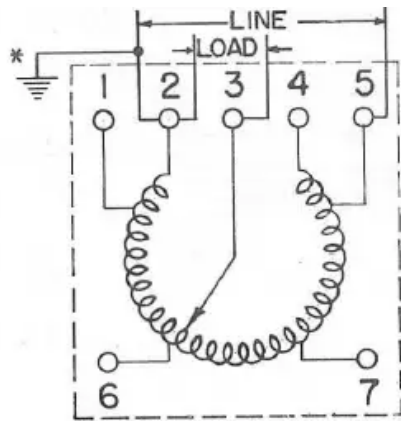

FIGURE 4
In the Vandercook schematic the power supply is simply assumed to be 120v AC on the L1 and L2 input lines from the line voltage. This is also seen in the notation above the NEON indicator in the schematic (e.g. Figure 4) where it says "115v 1 \emptyset - 60~ - 5A". This means that the line voltage is specified as 115v min, single phase (1 \emptyset), at 60Hz AC (that's the 60~), and consuming 5A total.
component causes it to heat up as current flows. The amount of current that can flow through the resistor over time (the power) is related to how much heat the resistor can dissipate. Because the resistors in the Vandercook schematic are carrying a fairly high current, at fairly high voltages, they are specific as 50w resistors and are therefore in the category of “power resistors” because they can dissipate a significant amount (50w) of power. In the schematic (Figure 4) you can see two fixed 50w-rated power resistors of 200Ω and 2Ω, and a 50w rated variable resistor (called a rheostat) of 80Ω by the BRAKE ADJ. circuit.
Finally, we get to the actual Vandercook Universal I powered carriage control circuit (as seen in Figures 4 and 24). This schematic is an old-school control schematic sometimes known as a “ladder diagram”. Because the controls are based on contactors and relays, the schematic shows the switches controlled by those relays on horizontal lines (that form a ladder). That’s why those horizontal lines are numbered on the left of the schematic – so that you can refer to contactor and relay switches by which line they’re on. As described in Section 3.5 these switches are used to implement the logic of the control using serial (AND) and parallel (OR) connections of the switches controlled by the contactor/relay control coils shown on the right side of the schematic and labeled FR (front relay), RR (rear relay), F (forward), CR (control relay), and R (reverse).